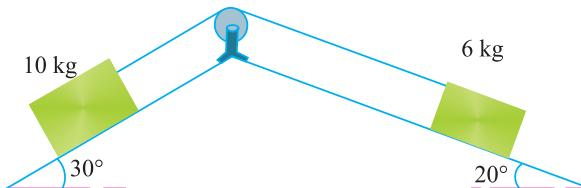

Fig. 25.15.
**Example 25.11.** Two smooth inclined planes whose inclinations with the horizontal are  $30^\circ$  and  $20^\circ$  are placed back to back. Two bodies of mass  $10 \text{ kg}$  and  $6 \text{ kg}$  are placed on them and are connected by a light inextensible string passing over a smooth pulley as shown in Fig 25.15.